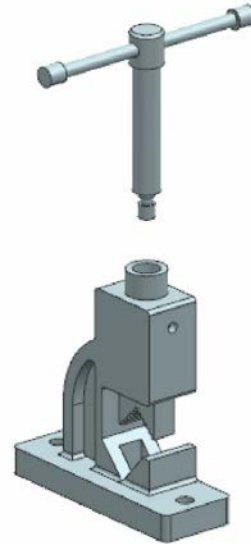

Figure 9-47 The assembly after exploding the selected components
5. Choose the **OK** button from the **Edit Explosion** dialog box; the selected components are exploded, as shown in Figure 9-47.